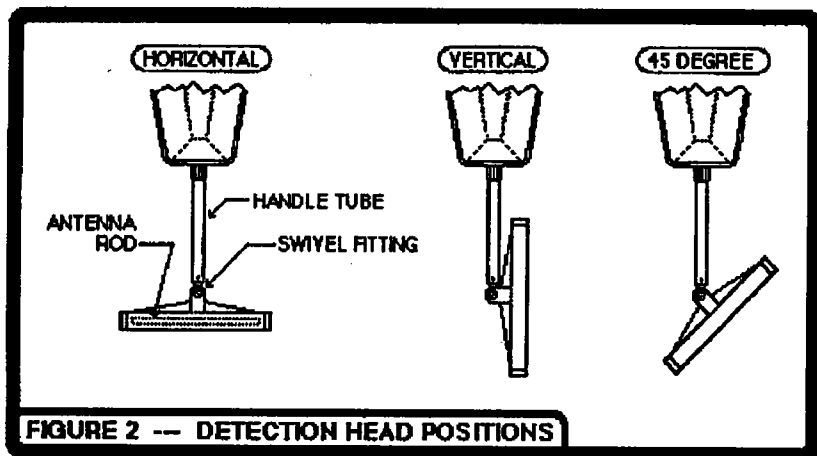

FIGURE 2 -- DETECTION HEAD POSITIONS
DETECTION HEAD - A sensitive, rod-type antenna, imbedded in a molded plastic housing, detects the radiated signals from the transmitter. Mounted on a swivel, the antenna can be set in any of three operating positions, as shown in Figure 2.
1. Set the detection head of the receiver to the vertical position as shown in Figure 2. Position the receiver vertically with the detection head near the ground (Figure 9). When tracing a line, a null (no signal) will occur when the detection head points at the line.
1. Set the detection head of the receiver into the horizontal position as shown in Figure 2. Position the receiver vertically with the detection head near to and parallel with the ground (Figure 10). When a peak (maximum signal) is received, the detection head points at the line, centering the receiver over the line.
2. Set the detection head to the 45 degree position as shown in Figure 2.